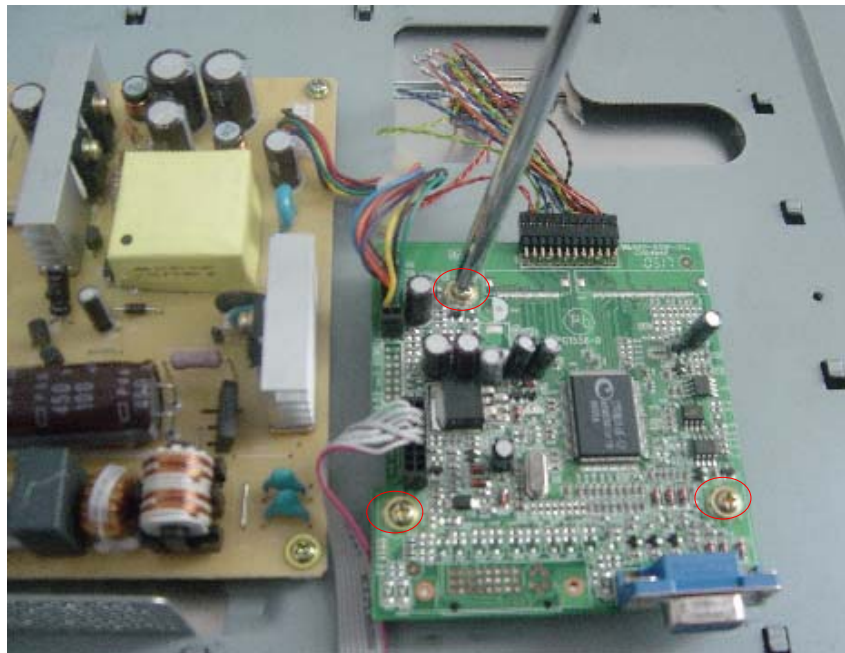

Fig 6
1. Remove three screws to release main board. (Fig 6)